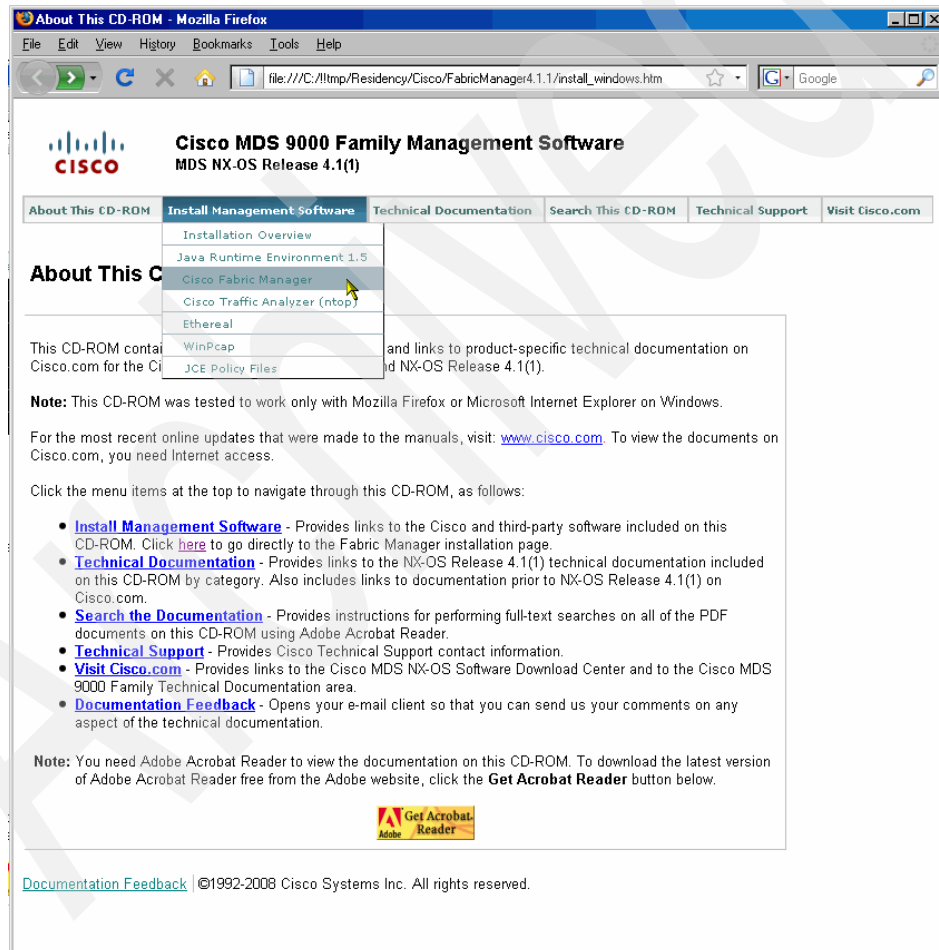

Figure 4-6 Install Management Software drop-down menu
1. When presented with the Cisco Fabric Manager Software install front page, we select to go directly to the Fabric Manager installation page, as shown in Figure 4-6.